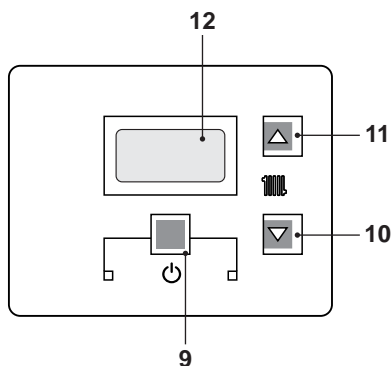

Fig. 2.5
- Press the key 9 for 2 seconds until  symbol appears on the display Fig. 2.5.
The output temperature of c.h. water can be adjusted by acting on keys 10 (reduce) and 11 (increase) (Fig. 2.5) from a minimum of about 25°C to a maximum of about 85°C.
However, if the ambient temperature is not comfortable, the flow temperature of the heating plant can be increased or reduced by  $\pm 15^{\circ}\text{C}$  by acting on keys 10 (reduce) and 11 (increase) (Fig. 2.5).